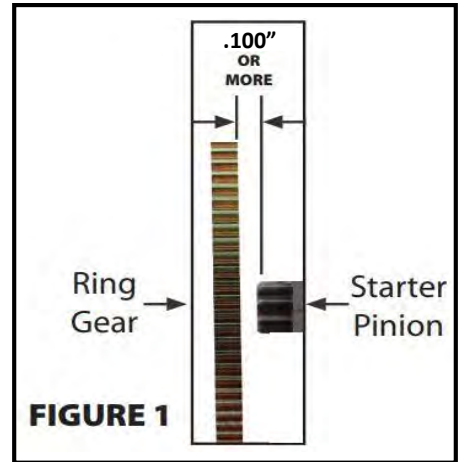
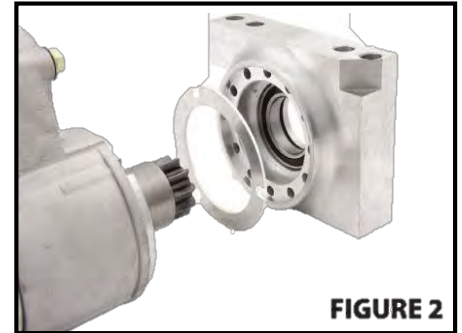

FIGURE 1
FIGURE 2
- FITMENT:** Check starter for clearance against oil pan and exhaust. If you encounter any interference re-clock the starter by removing the 3 hex head bolts. The starter can now be reattached in any combination of the 12 mounting holes (Figure2) and retightened to 50 in/lbs. You can now install the provided starter mounting bolts and torque to 32 ft/lbs. We do not recommend heat wraps on our starters, however a custom heat shield with air gap between unit and exhaust is optional.
- PINION CLEARANCE:** There should be a minimum of .100" clearance between the pinion gear and ring gear (Figure1). This can distance can be larger than .100" as long as the starter pinion engages properly. Proper engagement is when the pinion gear is engaged 50-75% of the ring gear width (Figure 4). If your engagement is too shallow, you can remove the preinstalled inner shim (See Figure 2). This will allow the pinion gear to engage 0.065 deeper.